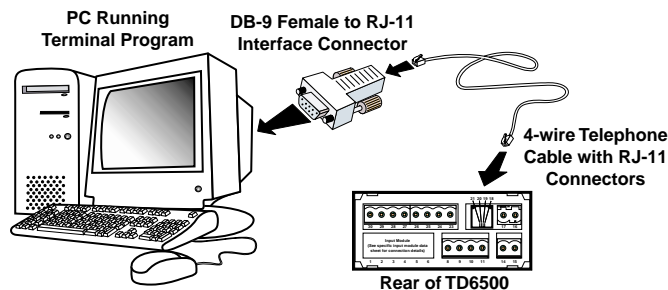

Figure 8 – RS-232 Hardware Connections
Figure 8 shows a simple RS-232 connection between a BDD-652 controller and a PC.
Figure 8 shows a number of BDD-652 controllers with the hardware required to connect directly to a PC using RS-485.
See Figures 8, 9, 10, 11 and Tables 5 and 6.
- 1) Connect the controllers together using the 2-wire telephone cables as shown in Figure 8.